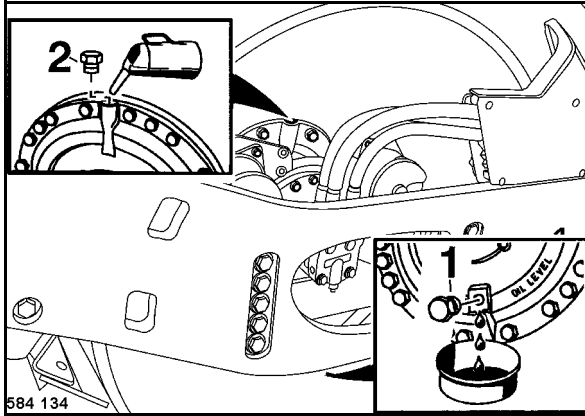

Fig. 164
- Unscrew oil level inspection plug (1) (Fig. 164) on the drum and fill in oil through the filler opening (2), until it starts to drip out from the level inspection bore.
- Screw oil filler (2) and level inspection plug (1) back in tightly.